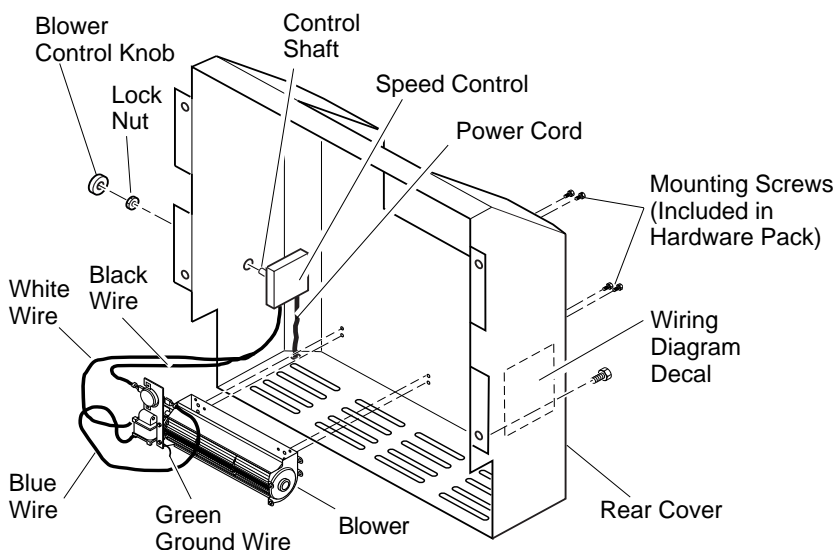

Figure 19 - Installing Optional Blower Accessory (Thermostat Model DA3610T Shown)
1. Align the holes in the top mounting tabs of blower with holes in wall of rear cover (see Figure 19). Using the 4 screws provided, mount blower and tighten screws securely.
3. Place speed control on left inside of rear cover and push the plastic control shaft through opening (see Figure 19).
4. While supporting speed control, secure control shaft with lock nut by pushing and turning lock nut with pliers clockwise until tight against the side of rear cover. Place control knob provided onto shaft (see Figure 19).